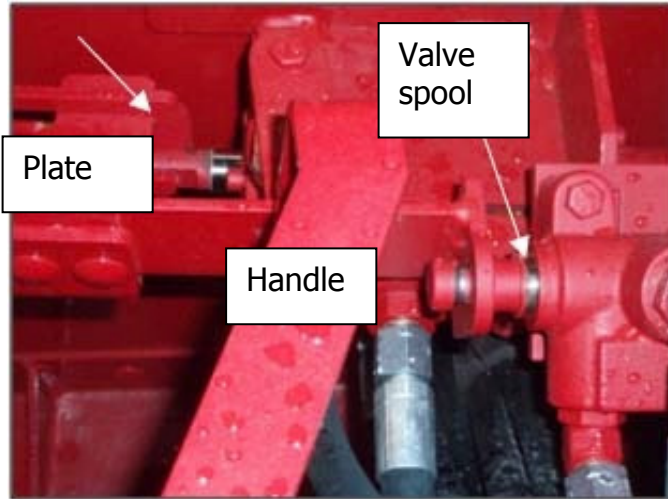
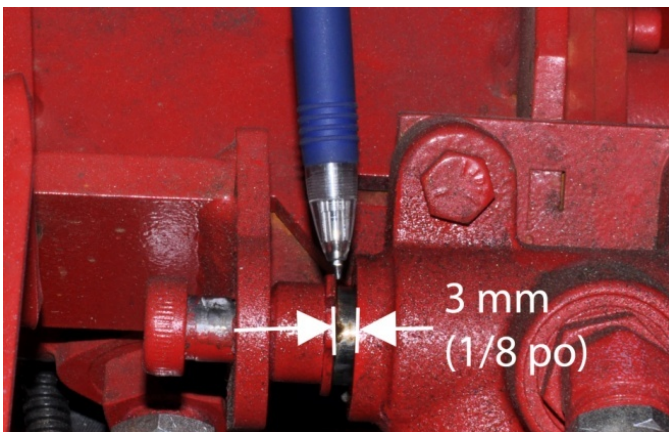
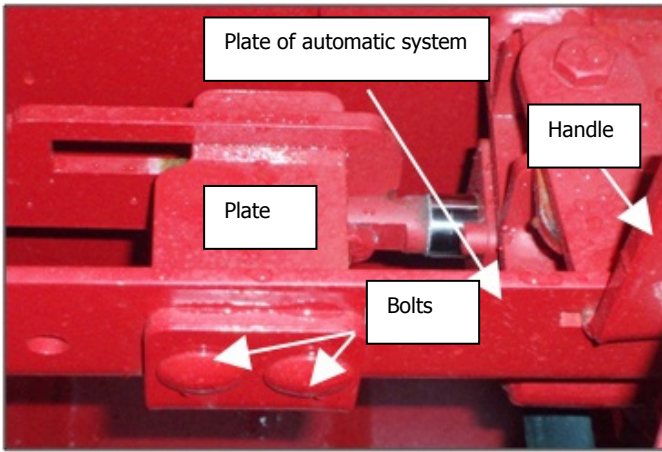

Figure 46 – Adjusting the automatic system (spool position)
Figure 47 – Adjusting the automatic system (spool measurement)
Figure 48 – Adjusting the automatic system (Moving the plate)
4. The push the handle forward until the plates touches slightly but do not move the valve spool (Figure 46).
5. Measure the distance from the snap ring and the valve body. If the distance is at 3mm (1/8 in) (Figure 47). The valve is adjusted correctly.
6. If the measurement is not 3mm (1/8 in) proceed as follows to make the adjustment: Unscrew slightly the two bolts from the plate (Figure 48). Move the plate forward (Figure 48) by using the handle of the manual start of the hoop. Until you have a space of 3 mm (1/8 in) (Figure 47) do this while leaving the plate at the end of the slot that it sits in (Figure 46).
- Tighten the two bolts again (Figure 48).